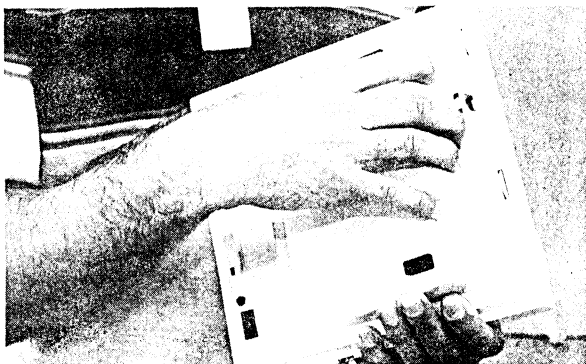

FIGURE 21
08.14 Locking tabs secure the base to the EKT. The direction in which the base is attached to the EKT determines whether it will be used as a desk unit or wall unit (it is factory-configured as a desk unit). Disengage the locking tabs by pushing downward on the base (Figure 21).